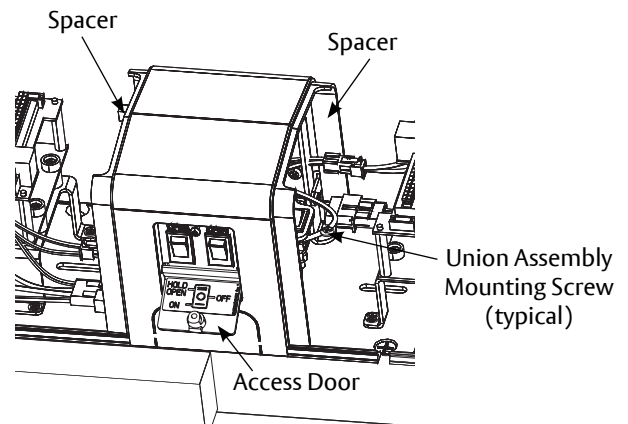

Figure 17 Union Assembly - View From Floor
1. Orient union assembly so access door covering selector mode switches faces floor. (Figure 17)
2. Secure union assembly to backplate using four (4) #8-32 x 5/16" Phillips pan head screws. (Figure 17)